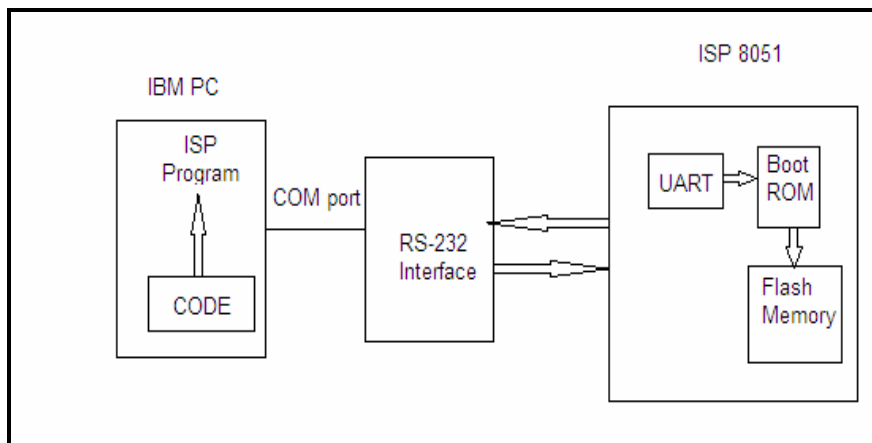

Fig.2-11-1 ISP structure
The newest generation of 8051 devices such as Philips P89C51RX+ family devices P89C51RC+, P89C51RD+, P89C51RX2 family devices P89C51RB2, P89C51RC2, P89C51RD2, and ATmel T89C51RC2 and T89C51RD2, equipped with on-chip flash memory and built-in loader, is widely used in the control applications since these devices are capable of in-system Programming (SP). With the ISP driver, the user can easily download the object code from PC to the 8051 device on circuit board through serial ports. The system structure is shown in fig.2-11-1.